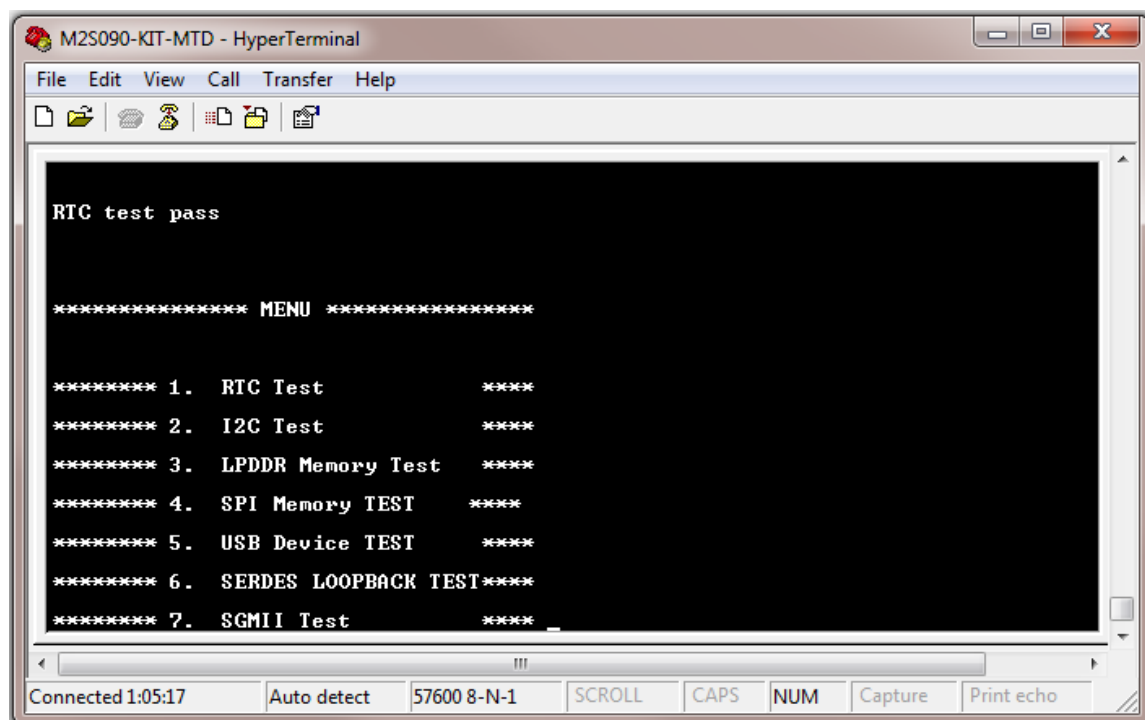

Figure 39 RTC Test Passed
- When the test is passed, a message is displayed as shown in Figure 39.